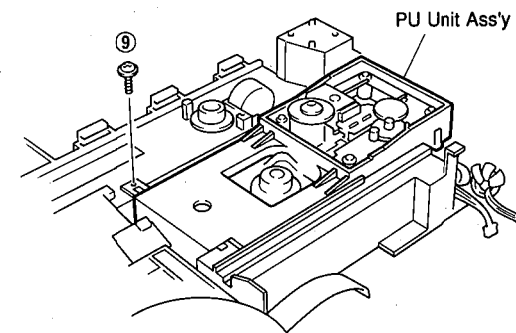

Fig. 4
- Remove 1 screw (9) and then remove the PU Unit Ass'y as shown Fig. 4.